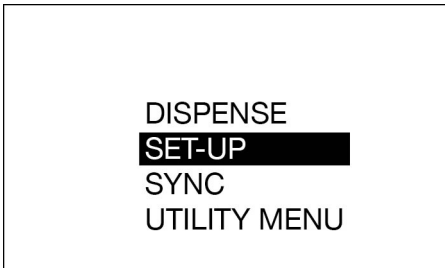

FIG. 11
2. From the MAIN MENU screen, use the UP and DOWN arrows on the navigation pad to select SET-UP (FIG. 11).